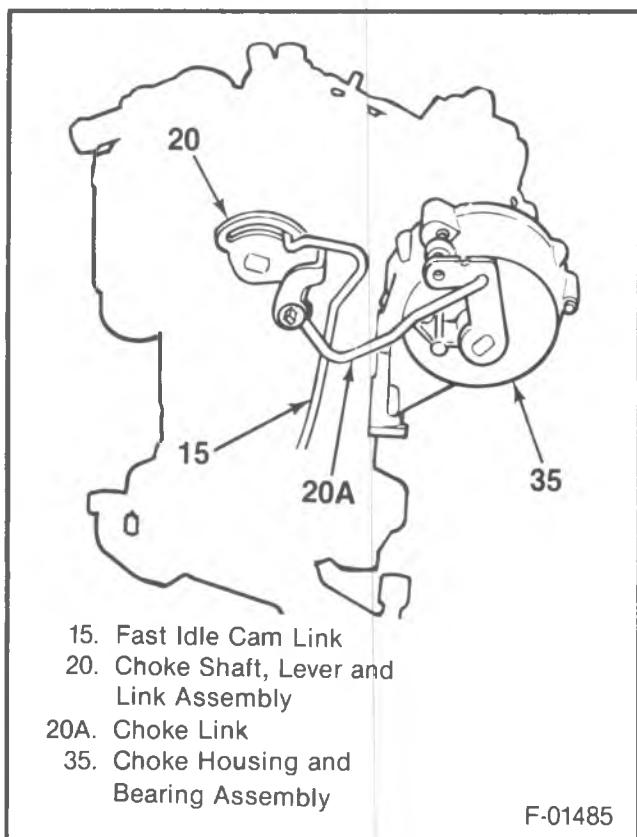

Figure 12 - Choke Housing Assembly
- Remove or Disconnect (Figure 12)
- Choke housing attaching screws (36, 37), and choke housing and bearing assembly (35).